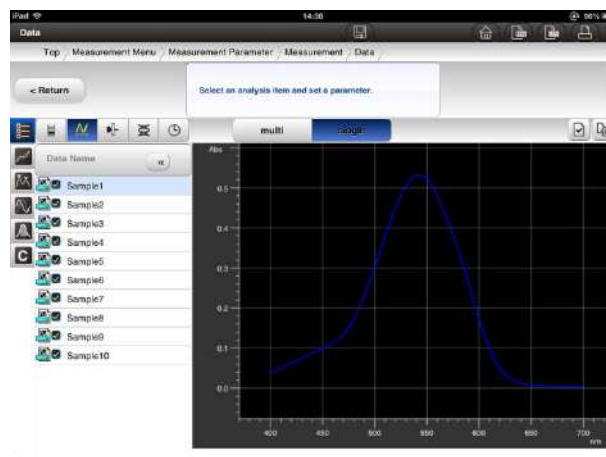

Fig. 4-84 Data Confirmation Window
- (1) Press  [Data button] and move to the data confirmation window (Fig. 4-84).